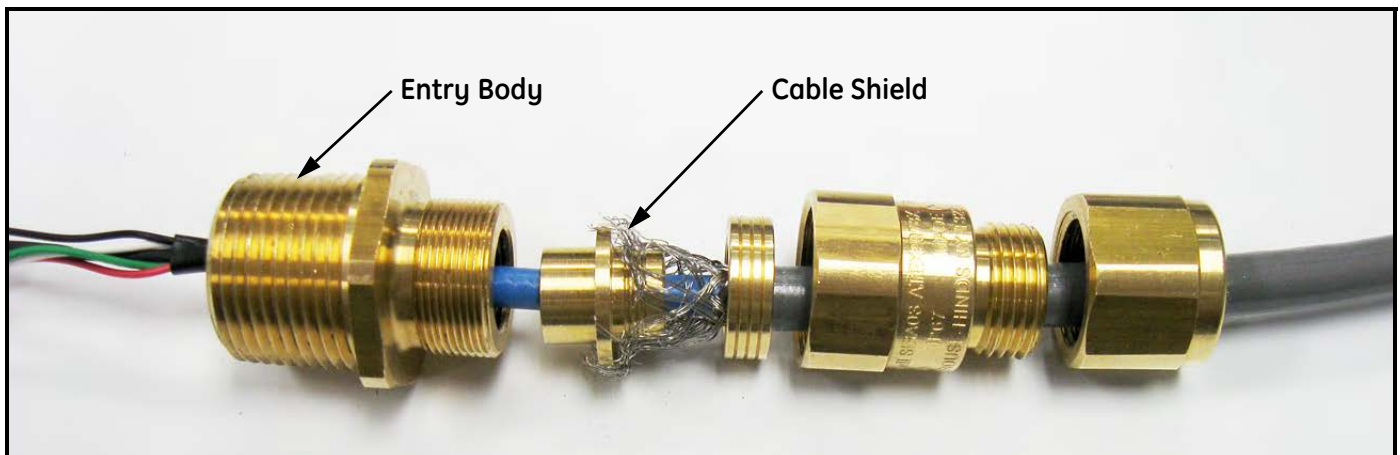

Figure 90: Proper Cable Gland Assembly (GE p/n 419-217)
- d. Fray the braided shield and spread evenly around the cone as shown in *Figure 90* below. Compress the ring to lock the shield.
IMPORTANT: *The cable shield must be terminated in the cable gland as shown in *Figure 90* below.*
- d. Fray the braided shield and spread evenly around the cone as shown in Figure 90 on page 97. Compress the ring to lock the shield.
IMPORTANT: *The cable shield must be terminated in the cable gland as shown in Figure 90 on page 97.*